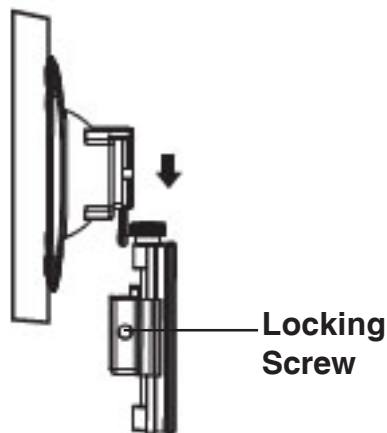

Figure 4A
1. Slide the Vesa Plate onto the VESA plate holder, see **Figure 4A**.
2. Tighten the **Locking Screw** with a Phillips screwdriver to secure the VESA Plate to the holder, see **Figure 4A** and **4B**.